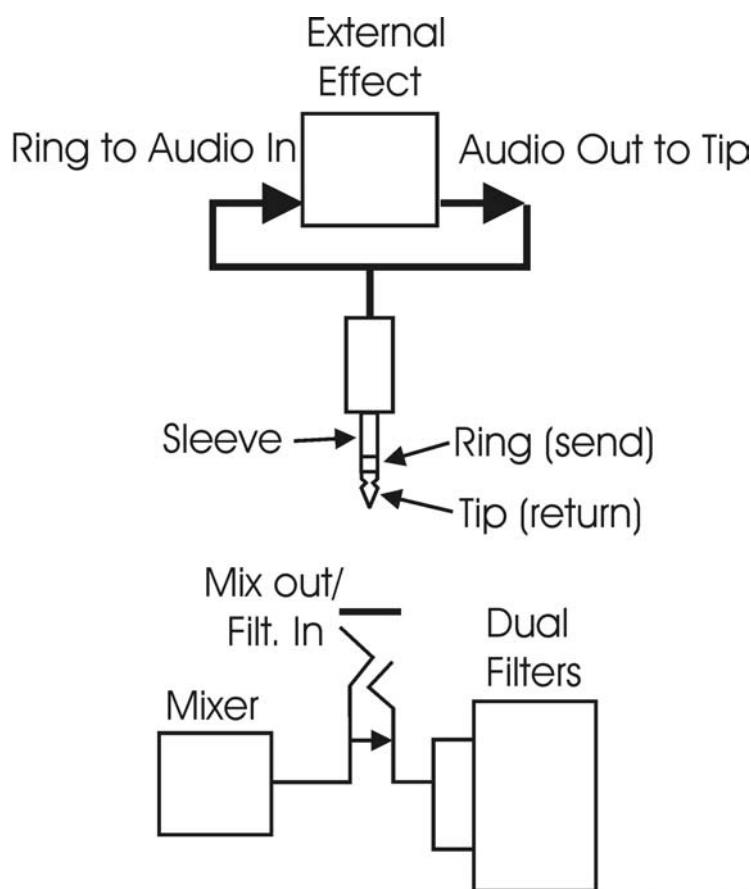

figure 17
**MIX-OUT LOOP:** The jack on the back labeled “mix out/filter in” is an insert point between the Mixer output and the filter input. Using a standard insert cable an effect such as a moogerfooger MF-102 Ring Modulator can be inserted to add effects to the oscillator, noise source, and external audio in prior to the filter stage. The Mixer output signal send appears at the tip of the jack. The return signal appears at the ring of the jack. A cable plugged into the jack breaks the connection between the mixer and the filter, Unless the Return signal is sent to the ring of the jack, no signal will pass through to the filter. The level settings in the mixer affect the output level, so keep this in mind as you try different devices in this loop. This insert point is a great spot to insert a distortion or waveshaping device, a phaser, ring modulator, or delay effects (figure 17).